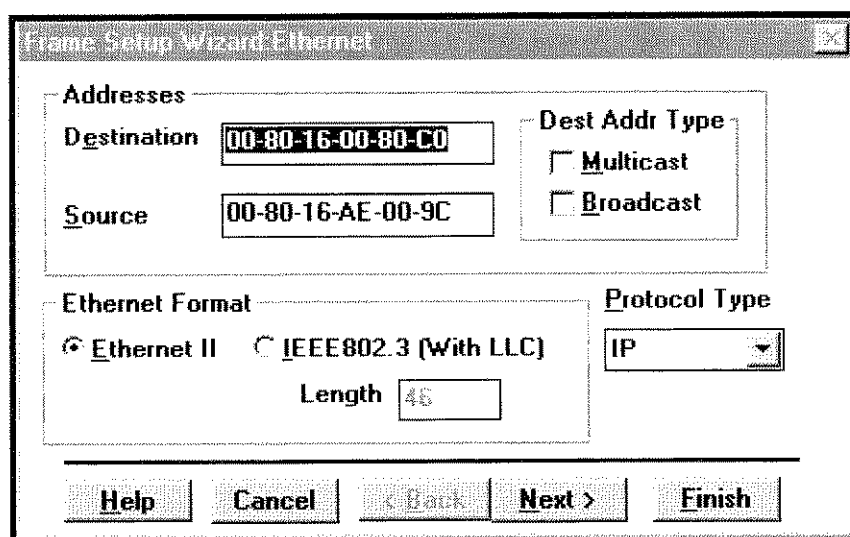

Figure 8-5. Frame Setup Wizard - Ethernet dialog box
5. To open the Frame Setup Wizard to specify protocol-specific addressing and encapsulation options, click **Frame Setup**. The Frame Setup Wizard - Ethernet dialog box is displayed (Figure 8-5).
The first wizard dialog box (Figure 8-5) allows you to specify the Ethernet options for the transmit frame including MAC addresses, address type, Ethernet frame format, and the next-layer protocol type. From there, depending on the Ethernet frame format that you selected and the next-layer protocol type, you can access the following wizard dialog boxes to set up other protocol information:
The Frame Setup Wizard - Ethernet dialog box is displayed (Figure 8-5).
You can use the Frame Setup Wizard - Ethernet dialog box (Figure 8-5) to select the destination address type and specify the source and destination address fields for a frame that you want to transmit. From the Frame Setup Wizard - Ethernet dialog box, you can continue to specify higher-level protocol addressing, such as IP, when you choose IP for the Protocol Type option and click **Next**.
Use the Frame Setup Wizard - Ethernet dialog box (Figure 8-5) to specify the length or protocol type of the Ethernet frame that you want to transmit. Depending on the type of Ethernet frame format that you are setting up, you can specify either the frame length (for IEEE 802.3) or the protocol type (for Ethernet II).